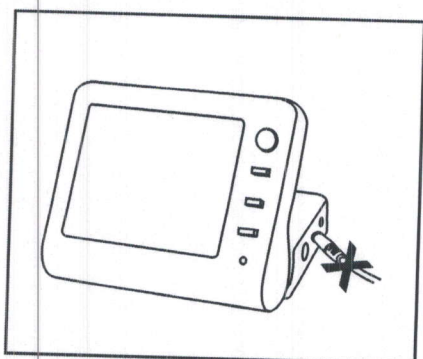

Fig.31
- 1) Disconnect the charger from the instrument if connected.(Fig.31)